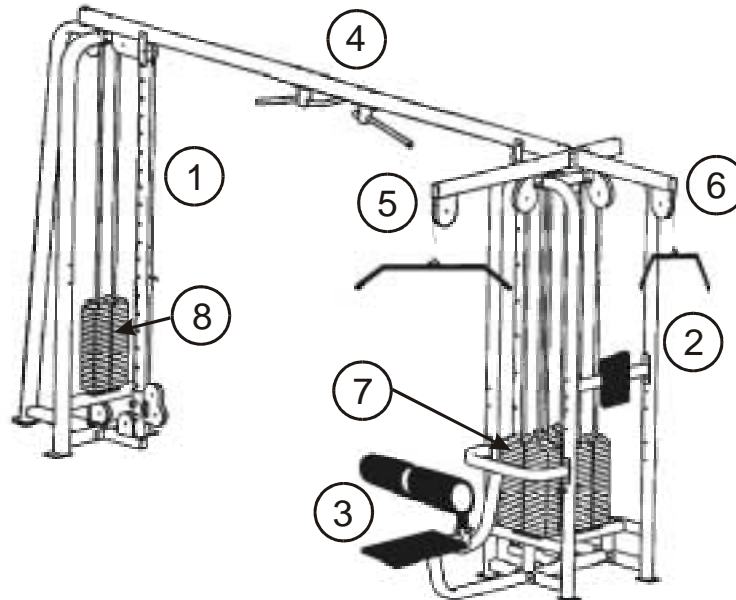
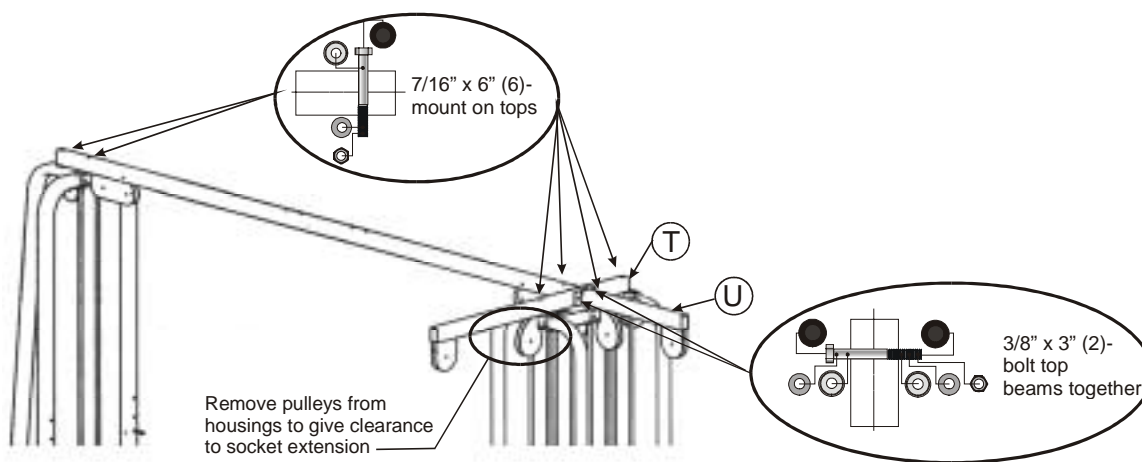

Figure 2. SM42 main components.
Figure 6. Bolt on the connecting beam, lat top, and tricep top.
Figure 2 shows an assembled SM42.
3. **Bolt on the connecting beam** (part 4 from Figure 2) using a 5/8" socket with extension and combination wrench, to the cells using two of the large 7/16" x 6" bolts, 7/16" washers, and 7/16" nuts (parts A, B, and C in *HARDWARE* section at end of these instructions), end cap washers and end caps (parts F and H in *HARDWARE* section). Figure 6 shows the connected cells. You will need to remove the pulleys from the teardrop pulley assemblies to gain clearance for the socket wrench extension. Leave the pulleys out of the housings until the cables have been installed.
The black rubber caps shown in Hardware Figure 2 are used to cap the ends of the cables that are threaded to the adjustable pulleys.
Hardware Figure 2. Rubber cap.
Hardware Figure 6. Weight stack rubber bumpers.